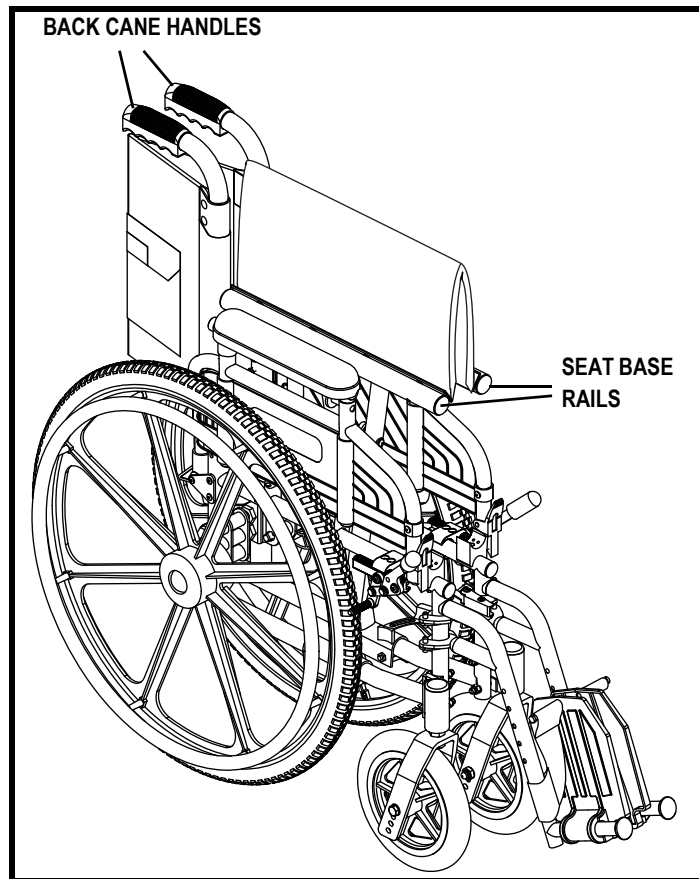

Figure 10. Lifting Points
2. With one hand, grab and squeeze together both back cane handles. See **figure 10**.